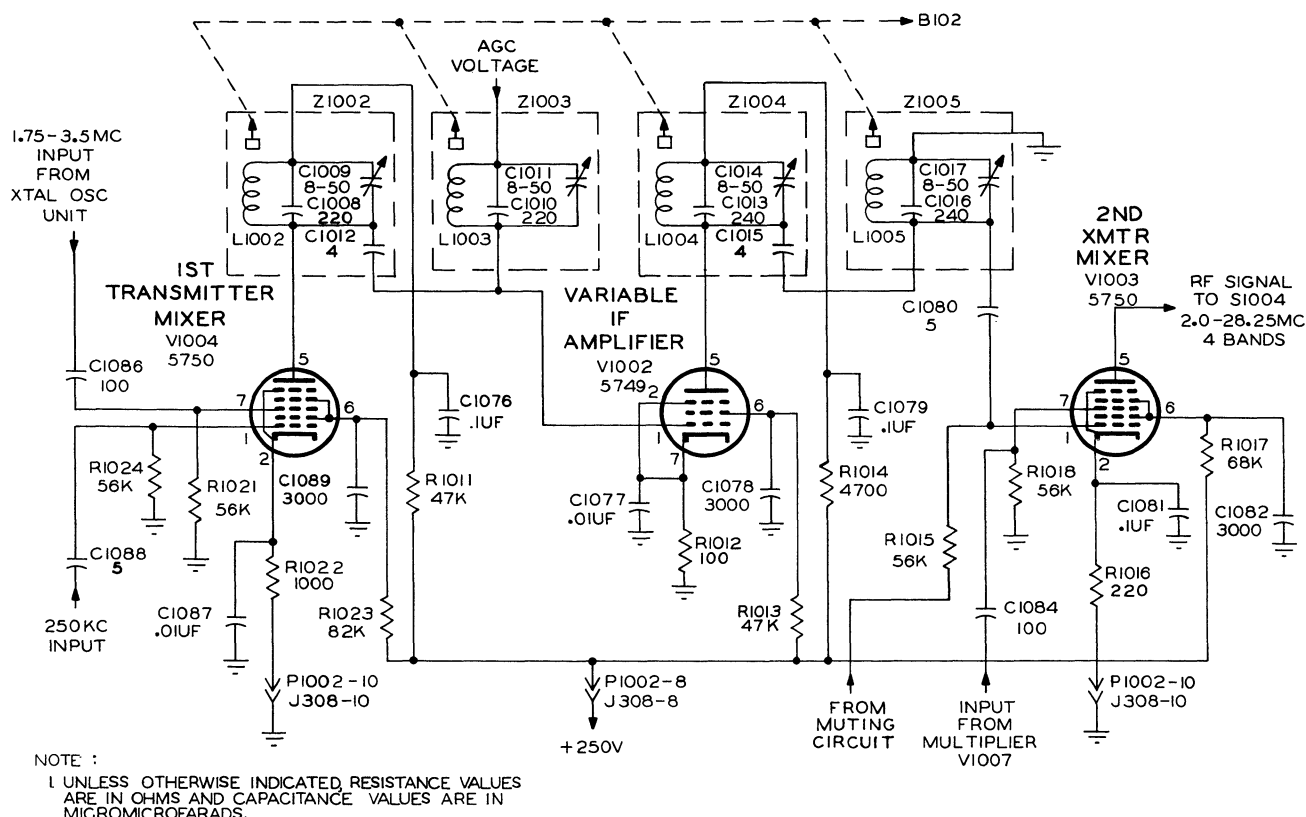

Figure 4-13. Transmit Position, Mixers and I-F Amplifiers, Simplified Schematic Diagram
4.9.3.1.2 MIXERS AND I-F AMPLIFIER. Refer to figure 4-13. Output of the r-f crystal oscillator unit is coupled through capacitor C1086 to pin 7 of V1004, the first transmitter mixer. Output of the 250 kc oscillator is applied to the control grid (pin 1) through capacitor C1088. During transmit conditions, cathode resistor R1022 is grounded through operation of keying relay K804 (refer to paragraph 4.9.11.4).